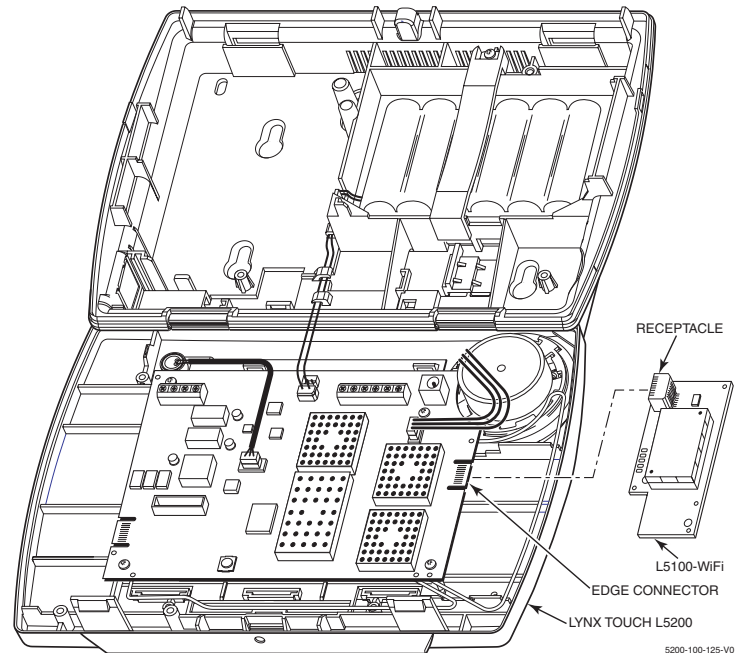

Figure 2. Installing the L5100-WiFi Communications Module (L5200 shown)
2. Release the LYNX Touch front case from the back case by depressing the two locking tabs at the top of the unit with the blade of a medium size screwdriver. Refer to Figure 2.
3. Install the module component side up in the control panel as shown in Figure 2. Ensure that module's receptacle is securely seated on the control's edge connector.